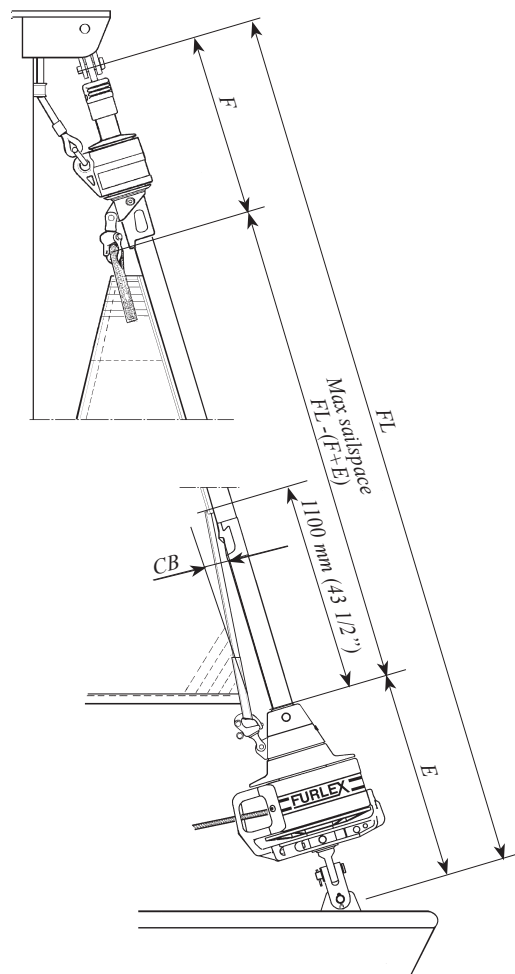

Fig. 7.1.b
- ☐ To fit the Furlex-system, an existing sail may need a number of modifications. The maximum luff length is calculated as shown in Table 7.1.1 and fig. 7.1.b.  $FL - (F+E)$  (existing forestay length as per Table 3.5.1 – less head and tack deduction).